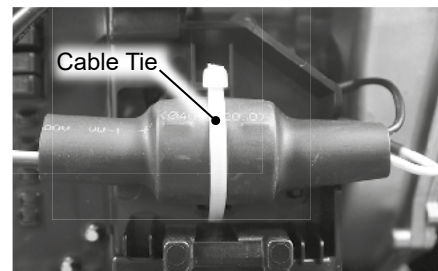

Figure 8 - Cable tie removal.
- 21 Remove the cable tie shown in Figure 8. Route the now loose wiring away from the control board.